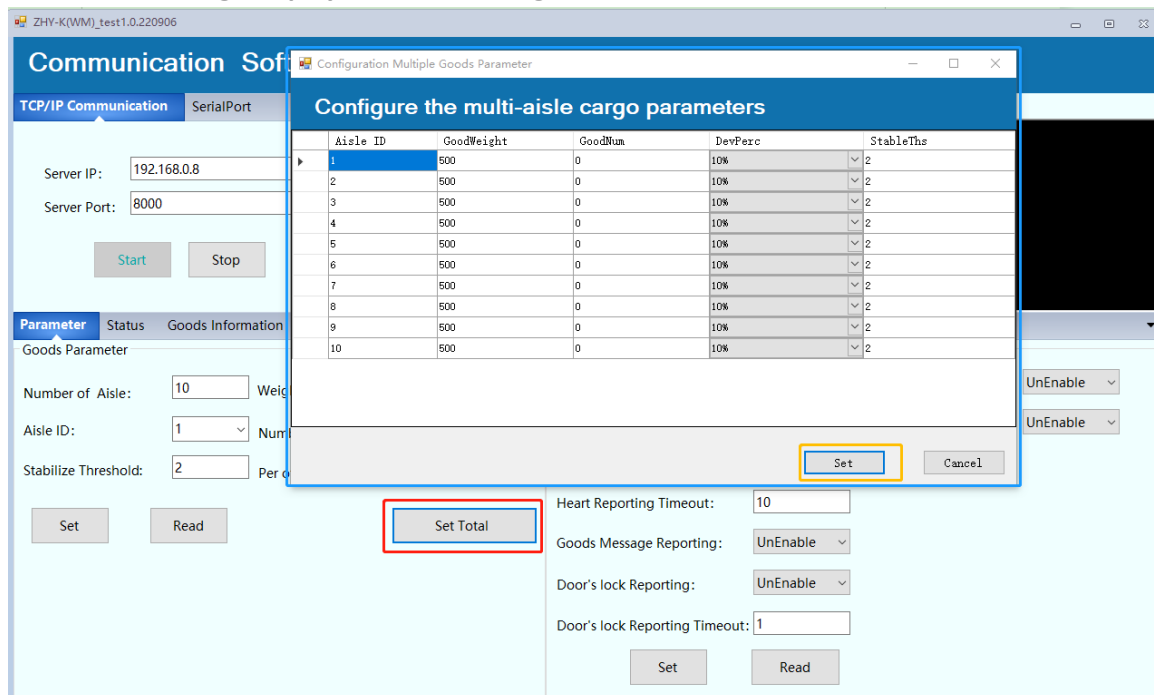
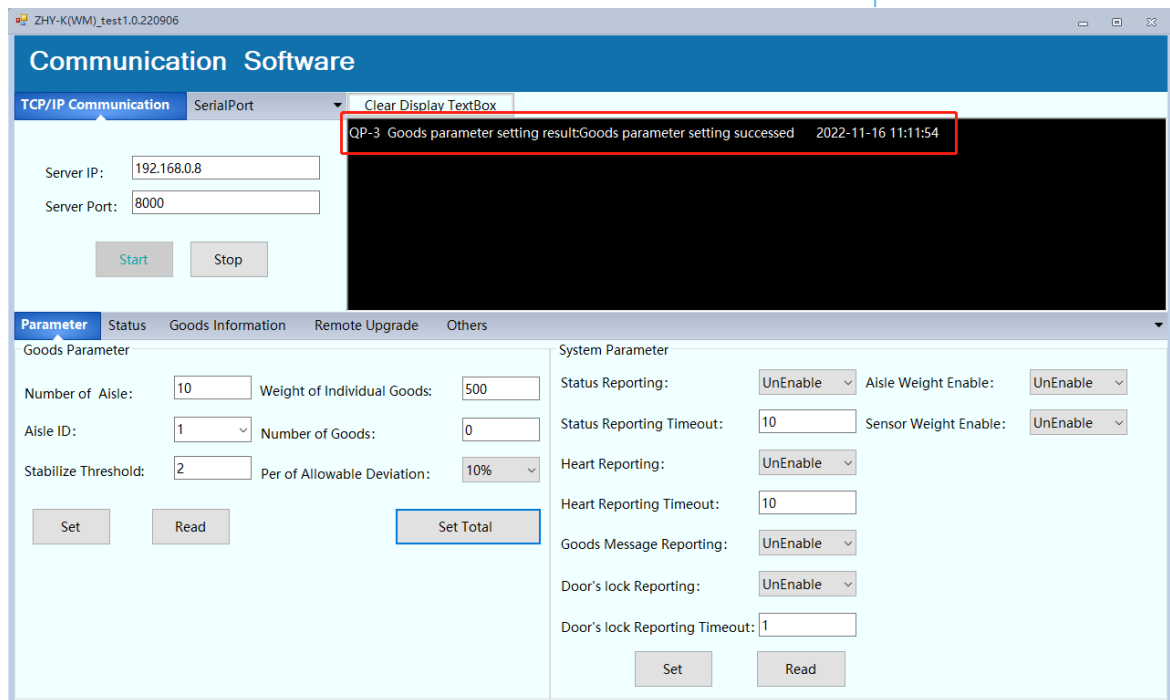

Figure 4.5 Set multiple aisle UI
Figure 4.6 Set multiple aisle received message UI
- C) To set multiple aisle goods parameters, click the 'Set Total' button to open the window of multiple aisle Cargo Parameter and input the parameter that you need. Then click 'Set' in Configuration Multiple Goods Parameters as shown in Figure 4.5. The result will be shown in the message display window as in Figure 4.6.
If the set is successful, the result will be shown in 'Display Textbox' window as Figure 4.6.